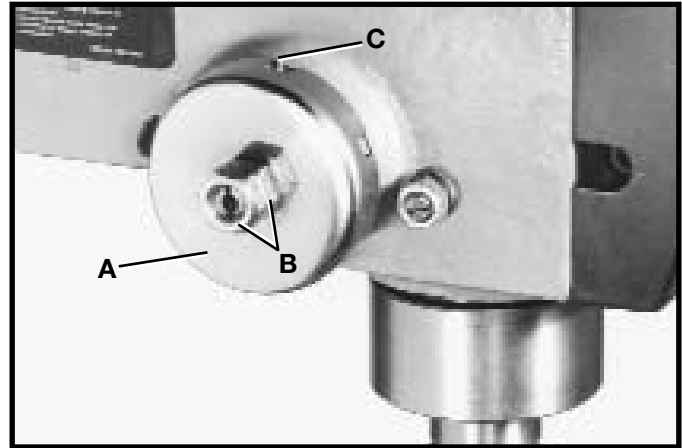

Fig. 28
For the purpose of automatically returning the spindle upward after a hole has been drilled, a spindle return spring is provided in the spring housing (A) Fig. 28. This spring has been properly adjusted at the factory and should not be disturbed unless absolutely necessary. To adjust the return spring, proceed as follows:
2. Loosen the two nuts (B) Fig. 28, approximately one-quarter inch. **IMPORTANT: DO NOT REMOVE NUTS (B) FROM SHAFT.**
3. While **FIRMLY** holding spring housing (A) Fig. 28, pull out housing and rotate it until the roll pin (C) is engaged with the next notch on the housing. Turn the housing counterclockwise to increase and clockwise to decrease spring tension. Then tighten the two nuts (B) to hold the housing in place. **IMPORTANT: NUTS (B) SHOULD NOT CONTACT SPRING HOUSING (A) WHEN TIGHT.**